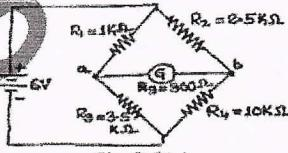

Fig.Q.8(c)
c. An unbalanced Wheatstone bridge shown in Fig.Q.8(c), calculate the current through the galvanometer. (05 Marks)